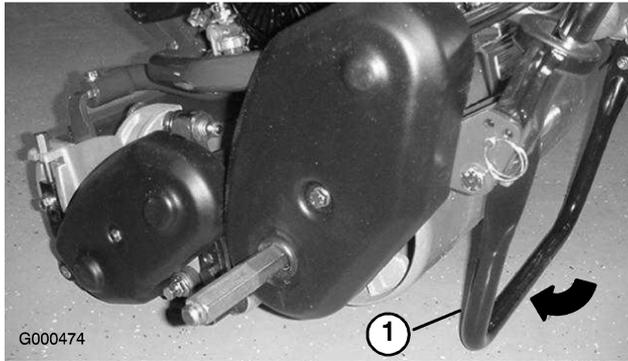

Figure 7
- Push kick stand down with foot and pull up on handle support until kick stand has rotated forward, over center (Figure 7).